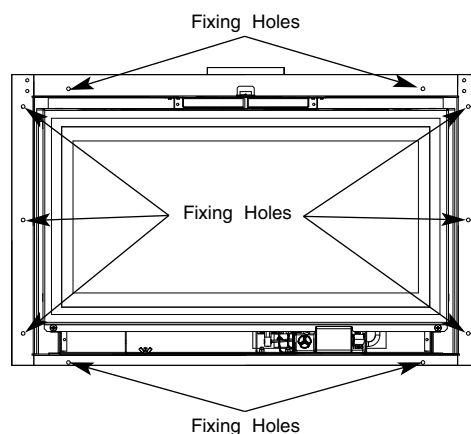

Fig. 9
5. Secure the fire box to the wall using the fixing holes provided in the fire box flange (Fig. 9).